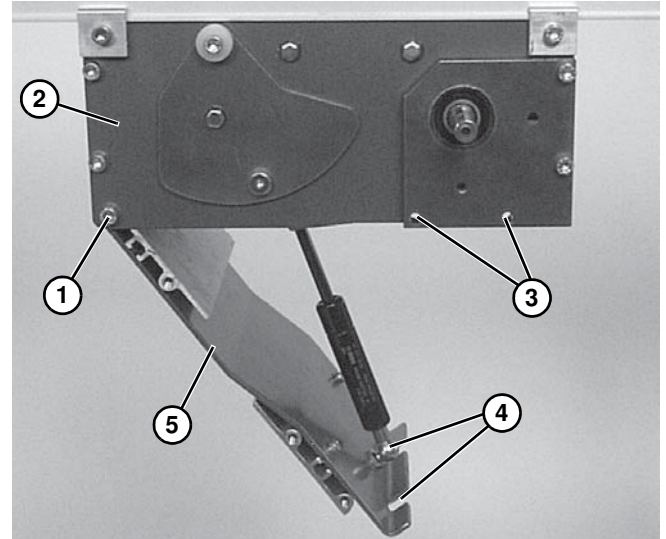

Figure 42
2. Loosen corner screws (**Figure 42, item 1**) on each side of the drive module (**Figure 42, item 2**).
3. Remove tension door screws (**Figure 42, item 3**) on each side of the drive module.
4. Using finger grip holes (**Figure 42, item 4**), open the tension door (**Figure 42, item 5**) to release conveyor belt tension.